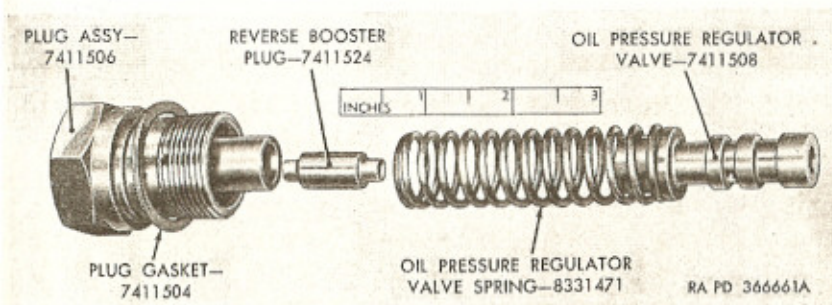

Figure 198. Transmission oil pressure regulator valve components (303M).
a. Install reverse booster plug (fig. 198 or 199) in pressure regulator plug assembly.